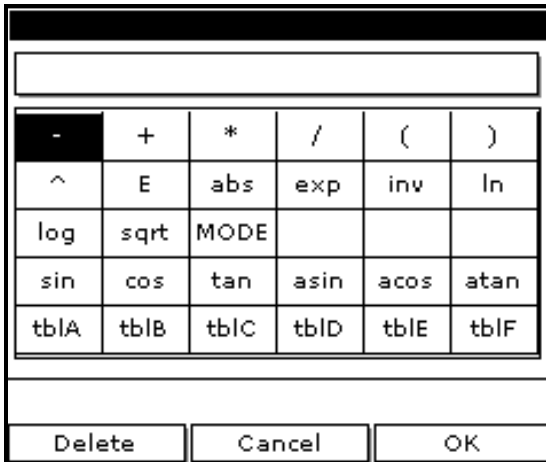

Figure 26: Function Creation Window
1. Use the arrow keys to move to the blank box at the bottom of the screen and press [ENTER]. A screen similar to Figure 26 appears.
**IMPORTANT:** *To enter a measurement (dewpoint, temperature, etc.) into the equation, click on MODE in the middle of the third row. The Select Measurement window appears. Select the desired measurements, press [SEL], select the desired units and press [F3] (OK).*